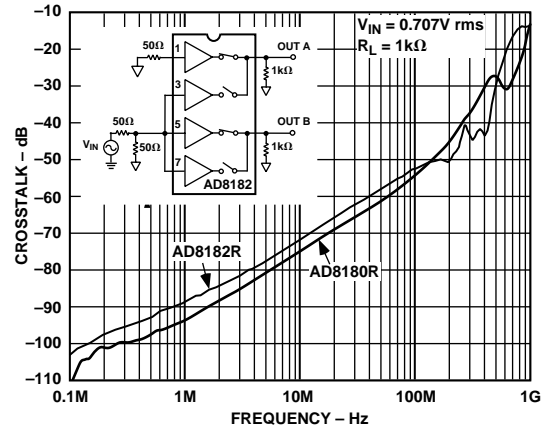

Figure 13. All-Hostile Crosstalk vs. Frequency
- 6Select input which is not being driven (i.e., if SELECT is Logic 1, input activated is IN1); drive all other inputs with VIN = 0.707 V rms and monitor output at f = 5 and 30 MHz. RL = 1 kΩ (see Figure 13).